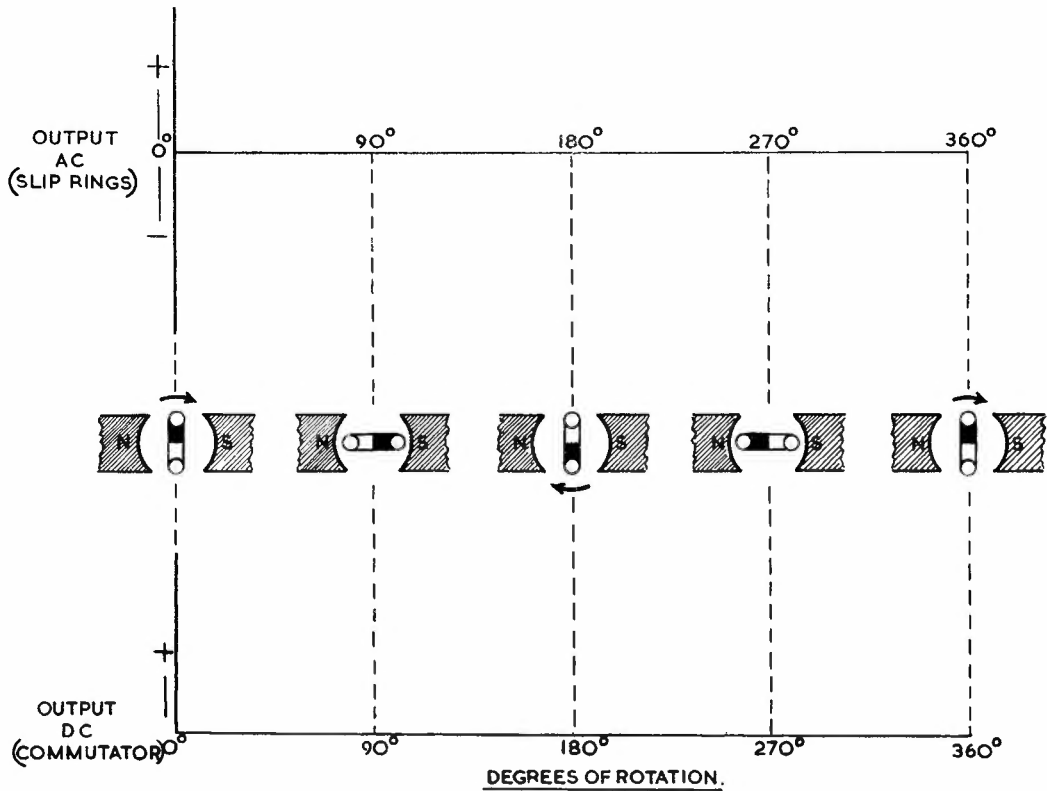

FIG. 1.
STEP 6. Complete the graphs of the output voltages, and show the direction of the induced e.m.f. on the conductors in Fig. 1.